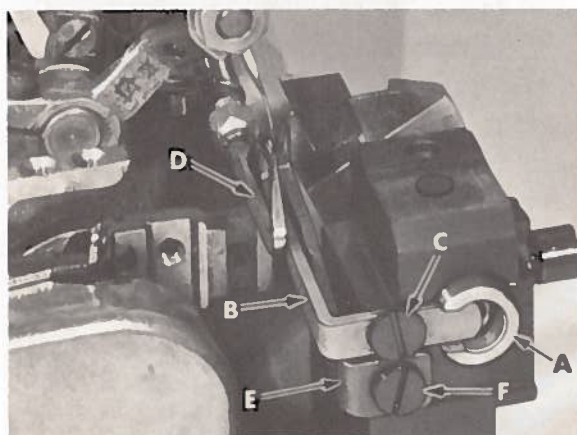

Fig. 9
Remove spring from inside of lower knife holder (A, Fig. 9), then reassemble knife
Replace front needle guard (E, Fig. 9) using screw (F). Temporarily tighten screw (F) to hold guard in position, yet allowing guard to be adjusted. Rotate handwheel in operating direction until needle(s) is at lowest position. Set guarding SURFACE of needle guard (E) to needle(s) with minimum clearance - approximately .004 inch (.10mm) and tighten screw (F) securely. Check to ensure needle(s) is NOT being pinched between front and rear needle guards.